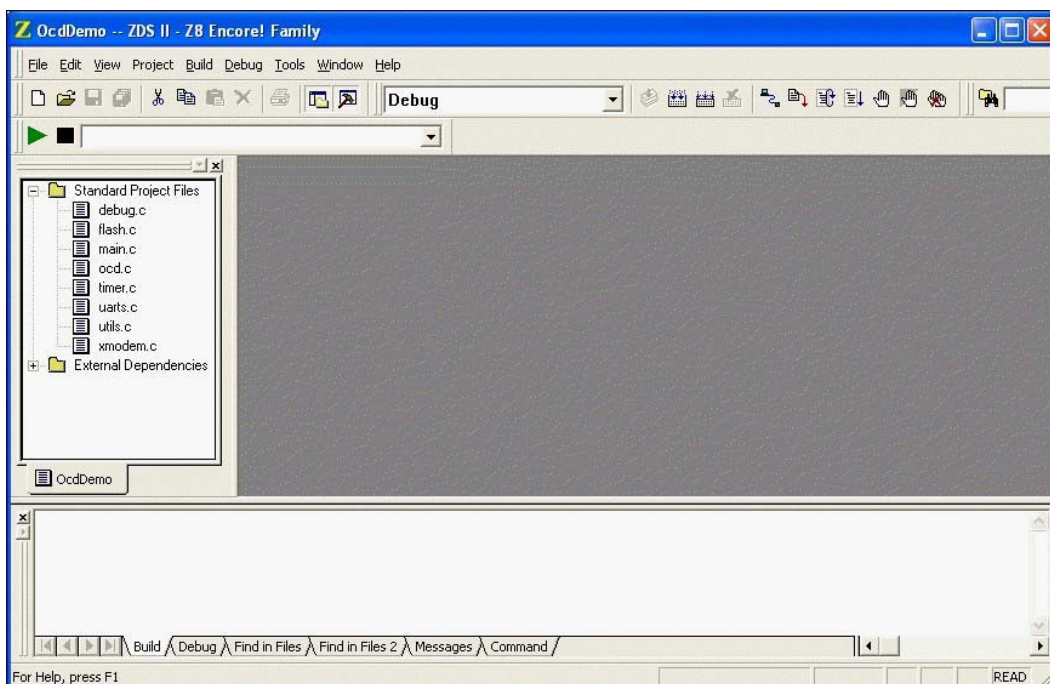
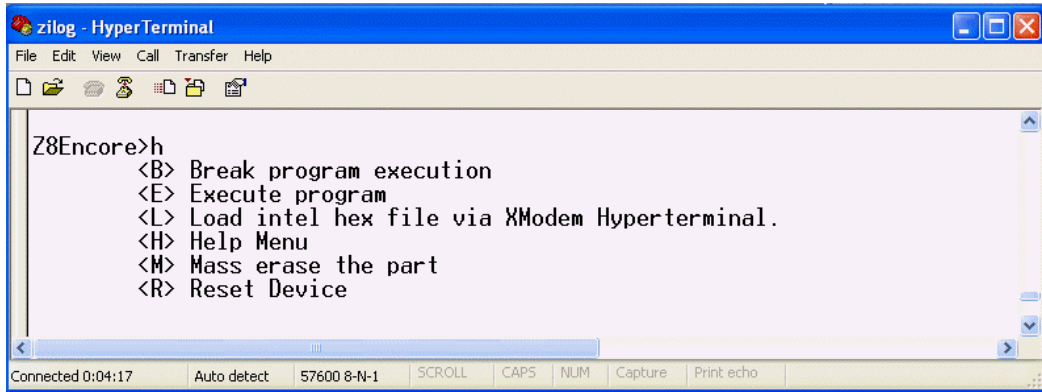

Figure 3. OcdDemo Opening Screen
Figure 5. HyperTerminal Window
14. Select the `OcdDemo.zdsproj` file and click **Open**. The initial Zilog Developer Studio II program screen appears, see Figure 3 on page 9. To view the project source files, click the plus sign to the left of the **Standard Project Files** folder on left side of the IDE interface. Double-click an individual file to open that file in the ZDSII file editor.
► **Note:** Figure 3 through Figure 5 are for reference only. You might have a newer version of the software.
4. Using your keyboard, type h at the `z8Encore>` prompt in the HyperTerminal window to see the available commands, as shown in Figure 5.